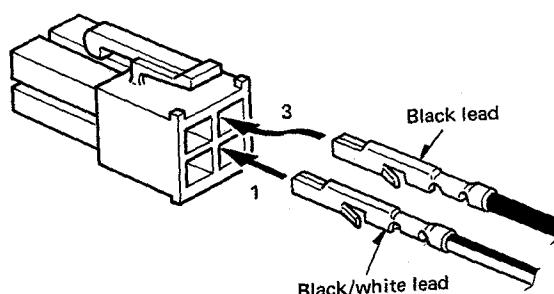

Fig. 5
6. Reinsert the terminal with the black and white stripe lead into hole number 1, and the terminal with the black lead into hole number 3 (Fig. 5).